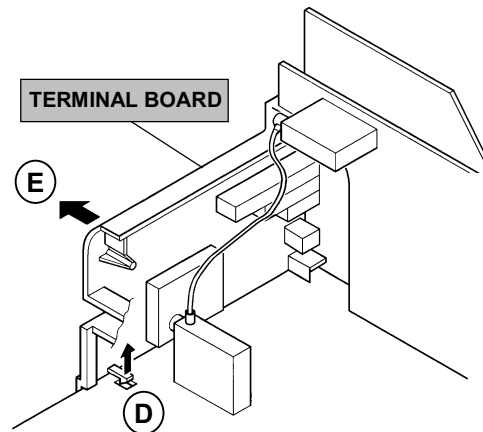

Fig. 1
2. As shown in Fig.1, after removing the claw marked **(D)** in the direction of arrow mark.
3. When you pull out the TERMINAL BOARD in the direction of arrow marked **(E)** as shown in Fig.1, it can be removed.
<p>(7) SERVICE MENU setting Verify what to set in the SERVICE MENU, and set whatever is necessary. (Fig.1) Refer to the SERVICE ADJUSTMENT for setting.</p>